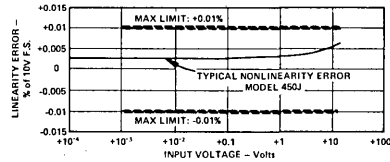

Figure 4. Model 450J: Nonlinearity Error Versus Input Signal
**Nonlinearity:** Nonlinearity is specified as a % of full scale input: 10V for models 450 and 456; 20V for model 454 – and is guaranteed for each model over the specified input range: 0.005% max, models 450K and 454K; 0.01% max, models 450J and 454J; 0.03% max, model 456J and 0.02% max, model 456K. Typical nonlinearity performance is illustrated for model 450J in Figure 4. Below 1mV input, nonlinearity error remains within the specified limits, but is masked by zero offset stability, input noise and adjustment accuracy.